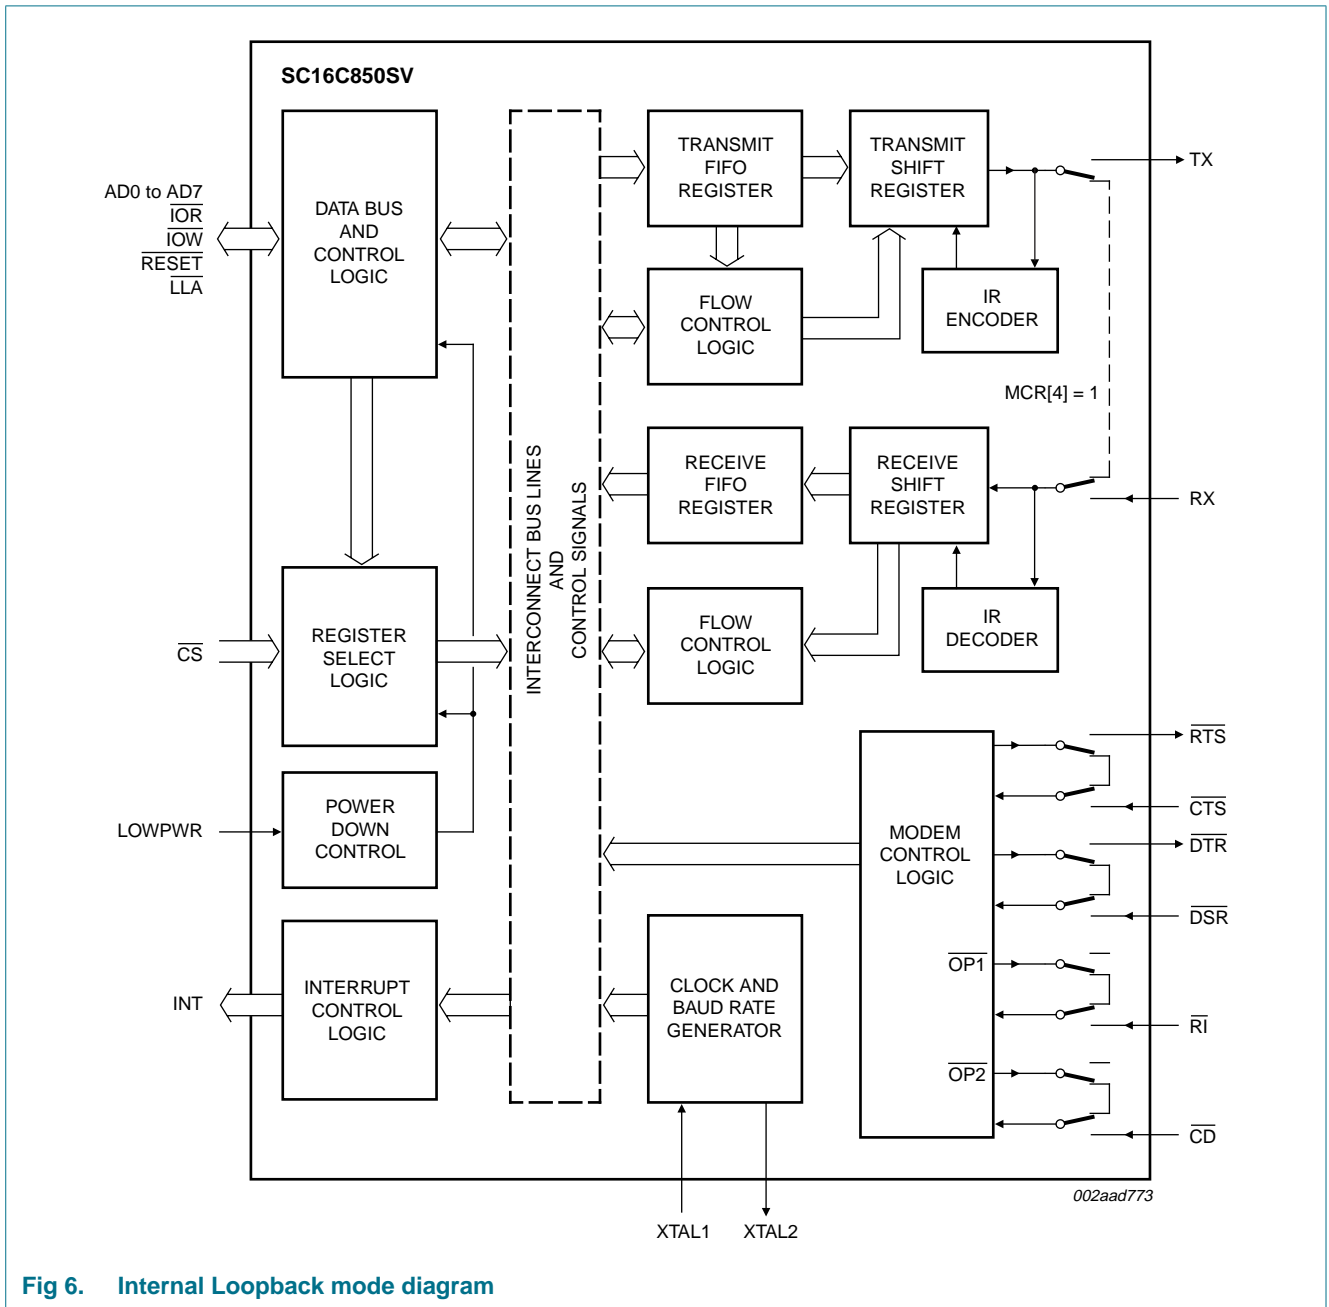

Fig 6. Internal Loopback mode diagram
The internal loopback capability allows on-board diagnostics. In the Loopback mode, the normal modem interface pins are disconnected and reconfigured for loopback internally (see Figure 6). MCR[3:0] register bits are used for controlling loopback diagnostic testing. In the Loopback mode, the transmitter output (TX) and the receiver input (RX) are disconnected from their associated interface pins, and instead are connected together internally. The  $\overline{CTS}$ ,  $\overline{DSR}$ ,  $\overline{CD}$ , and  $\overline{RI}$  are disconnected from their normal modem control inputs pins, and instead are connected internally to  $\overline{RTS}$ ,  $\overline{DTR}$ , MCR[3] ( $\overline{OP2}$ ) and MCR[2] ( $\overline{OP1}$ ). Loopback test data is entered into the transmit holding register via the user data bus interface, AD[7:0]. The transmit UART serializes the data and passes the serial data to the receive UART via the internal loopback connection. The receive UART converts the serial data back into parallel data that is then made available at the user data interface AD[7:0]. The user optionally compares the received data to the initial transmitted data for verifying error-free operation of the UART TX/RX circuits.